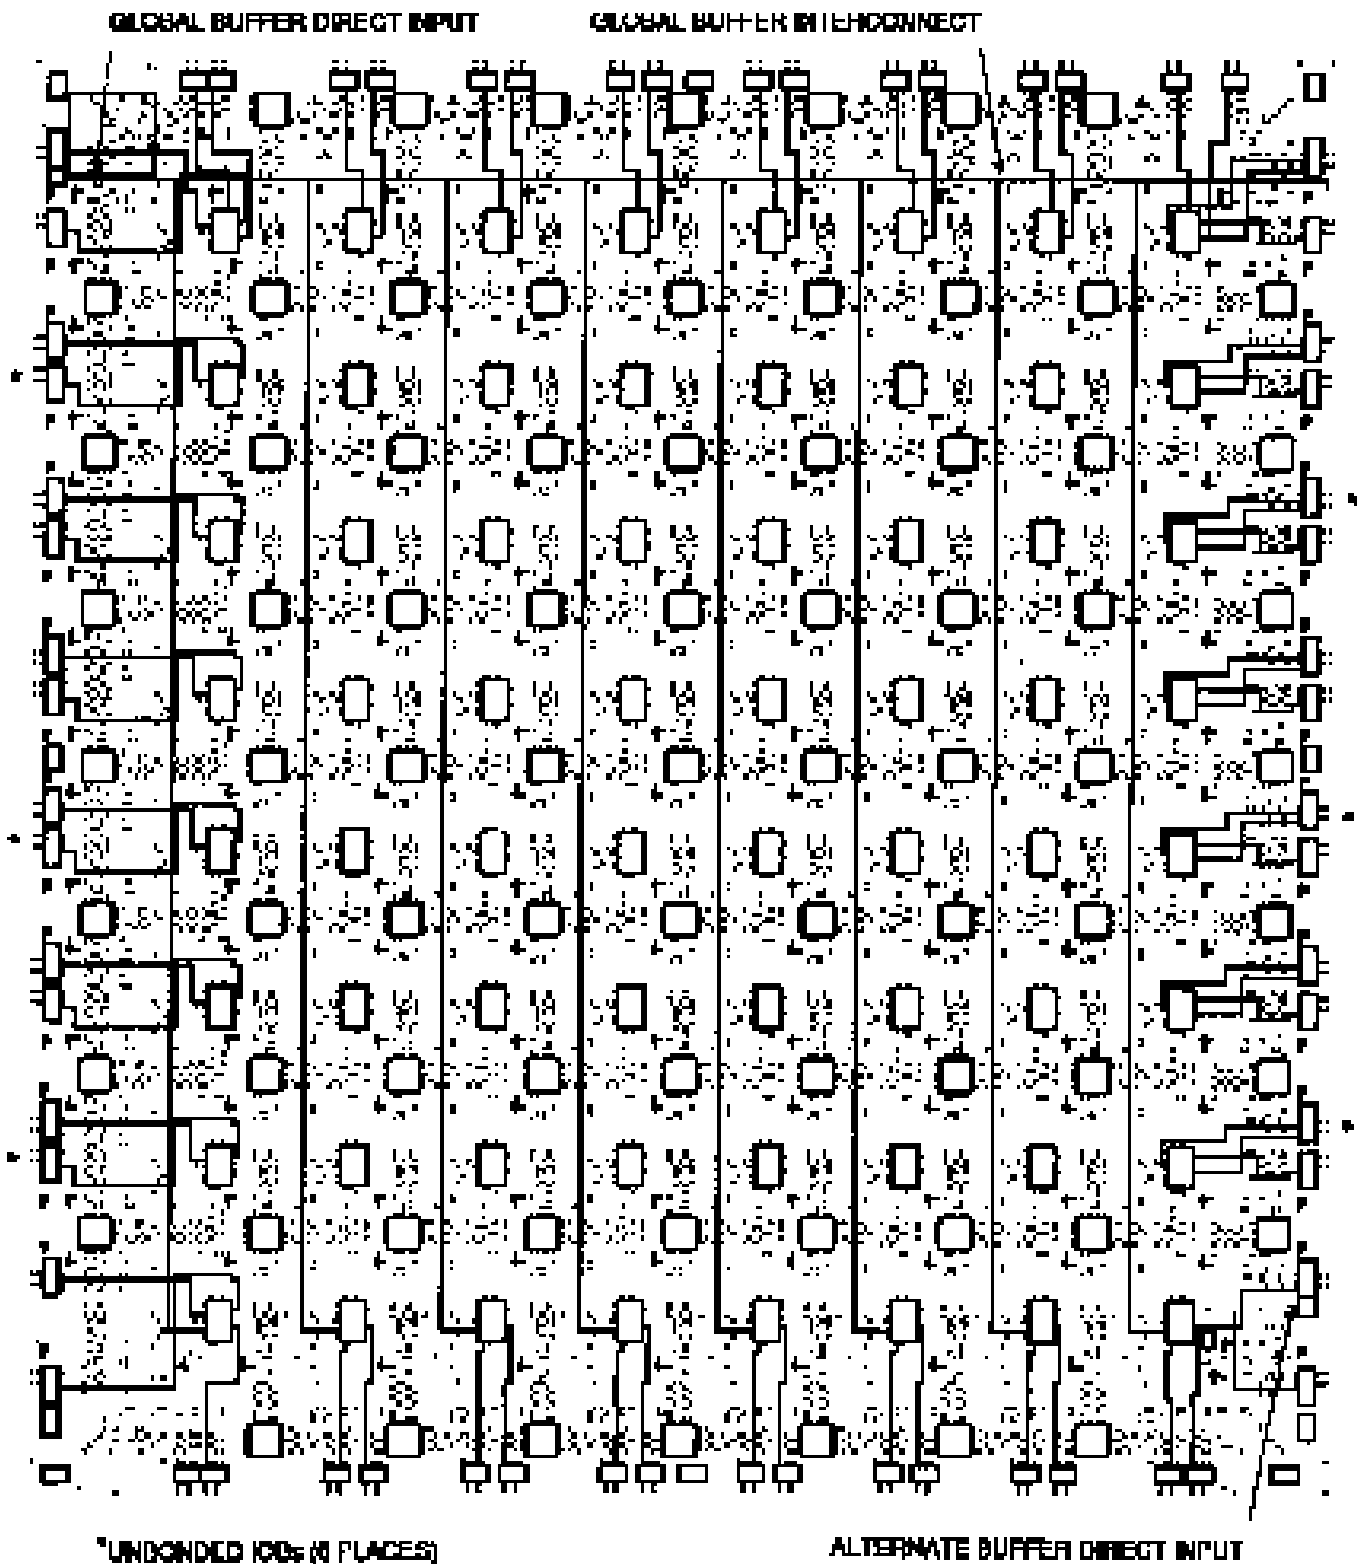

Figure 12. XC3020 Die-Edge IOBs. The XC3020 die-edge IOBs are provided with direct access to adjacent CLBs.
nect should be used to maximize the speed of high-performance portions of logic. Where logic blocks are adjacent to IOBs, direct connect is provided alternately to the IOB inputs (I) and outputs (O) on all four edges of the die. The right edge provides additional direct connects from CLB outputs to adjacent IOBs. Direct interconnections of IOBs with CLBs are shown in Figure 12.